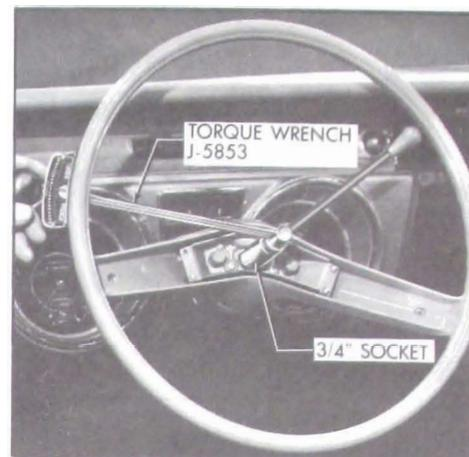

Figure 8-31—Checking Adjustments in Car
4. Turn steering wheel to extreme right or left position. Attach Torque Wrench J-5853 to steering wheel retaining nut and check the torque required to turn the wheel steadily in the range where lash normally exists between rack-piston nut and pitman shaft sector. See Figure 8-31. The lash range exists for one-